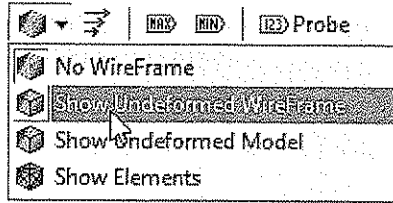
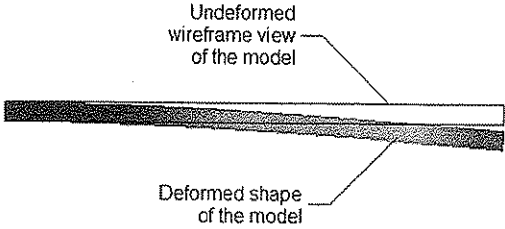

Figure 9-31 Selecting Show Undeformed WireFrame from the Edges drop-down list
Figure 9-32 Deformed and undeformed views of the model
4. Select the **Show Undeformed WireFrame** option from the **Edges** drop-down list in the **Result** contextual toolbar to visualize the extent of the deformed shape, as shown in Figure 9-31; the undeformed wireframe model is displayed along with the deformed model in the Graphics screen, as shown in Figure 9-32.
To view the transparent mode of the model, select the **Show Undeformed Model** option from the **Edges** drop-down list, refer to Figure 9-31. Similarly to show the elements that are created after meshing in the deformed shape of the model, select the **Show Elements** option from the **Edges** drop-down list, refer to Figure 9-31. Figure 9-33 shows the undeformed model when the **Show Undeformed Model** option is selected. Figure 9-34 displays the elements when the **Show Elements** option is selected.